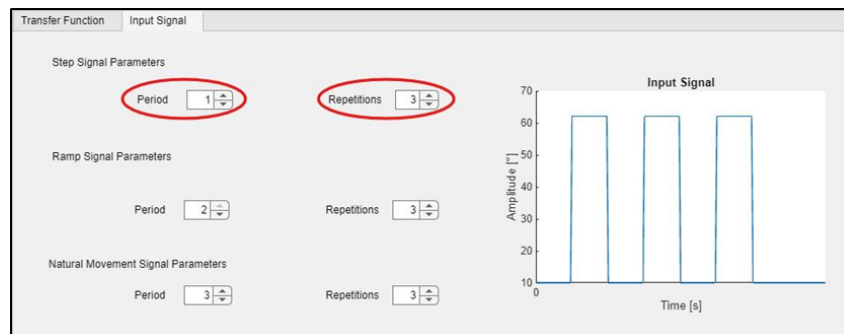

Figure 16: Choosing the period and repetitions
6. In this tab, you can modify the parameters for the input signal, such as the period and the number of repetitions, to suit your needs. See Figure 16.